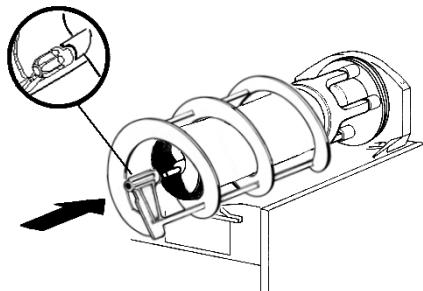

figure 14
- 6** Install the outer spiral. Slide it over the evaporator until its front notch engages with the exposed end of the auger shaft (see figure 14).